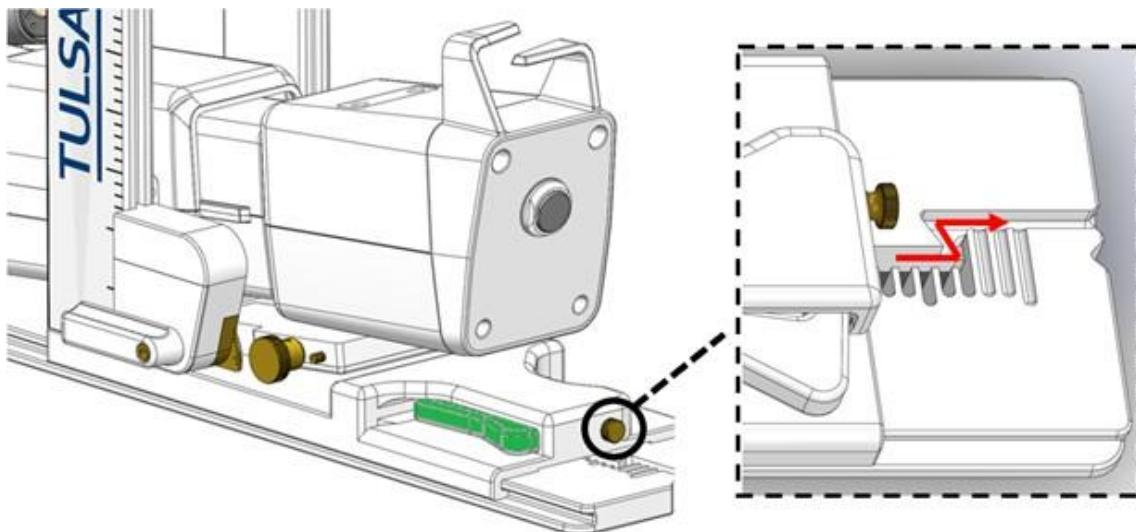

Figure 67: Removing PS from base plate
1. Remove the PS from its notched base plate by partially unscrewing the thumbscrew located on the rear of the PS base and depressing the horizontal adjustment lever through the Z channel at the rear of the PS base (*Figure 67*).